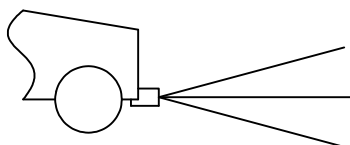

FIGURE 2
- 15 degree angle up or down from horizontal (See Figure 2).